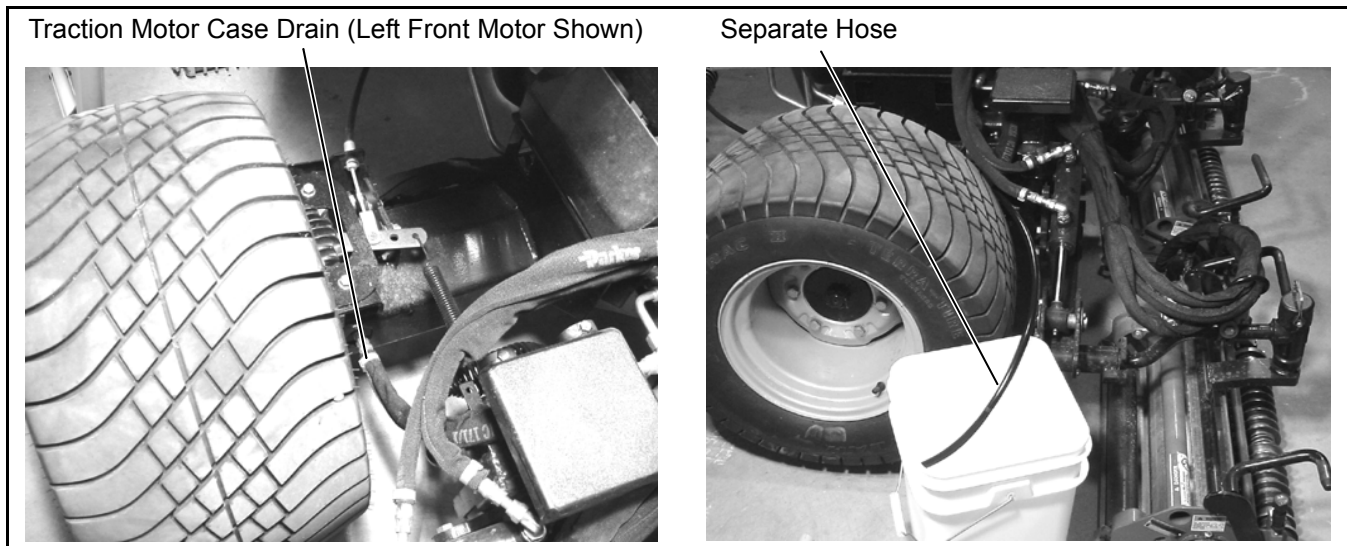

Figure 8N-5. Traction Motor Case Drain (Left Front Motor Shown)
9. Remove the separate hose from the motor and plug from the hydraulic hose. Connect the hydraulic hose to the traction motor (Figure 8N-5).